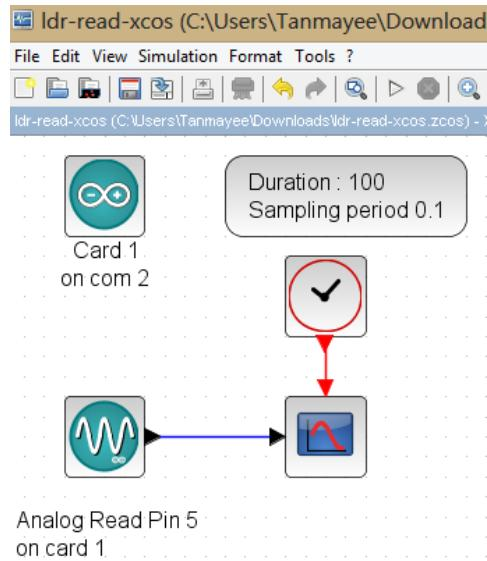

Figure 6.5: Xcos diagram to read LDR values. This is what one sees when `origin/user-code/ldr/scilab/ldr-read.xcos`, see Footnote 2 on page 2, is invoked.
1. First we will read the LDR values and display it. When the file required for this experiment is invoked, one gets the GUI as in Fig. 6.5. In the caption of this figure, one can see where to locate the file.